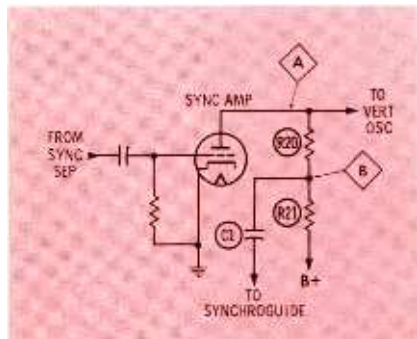

Fig. 1. Point B is waveform-divider point for checking sync amplitude for Synchroguide.
For efficient operation, the *Synchroguide* requires that sync signals have the following characteristics: (1) Amplitude—ranging between 15 and 25 volts, (2) Shape—narrow pulse with steep leading edge, (3) Polarity—pulse must be positive-going. All of these requirements are easily obtained from a two-stage sync section, and the majority of receivers using *Synchroguide* contain at least two stages of sync. Since two-stage sync sections usually supply 30 or more volts of sync amplitude, a voltage divider is generally incorporated at the output to reduce the sync to 15 volts or so. The circuit in Fig. 1 is typical of final sync stages in *Synchroguide* receivers. The voltage divider consists of R20 and R21, and C1 couples sync pulses to the *Synchroguide*.
For examining the sync signal, it is recommended that the first scope observation be made at the plate of the sync output (point A of Fig. 1), since any distortion is more obvious here than at the takeoff point (point B of Fig. 1). It is also recommended that the scope sweep be set at one-half the vertical frequency rather than the horizontal frequency. There are two reasons for these recom-